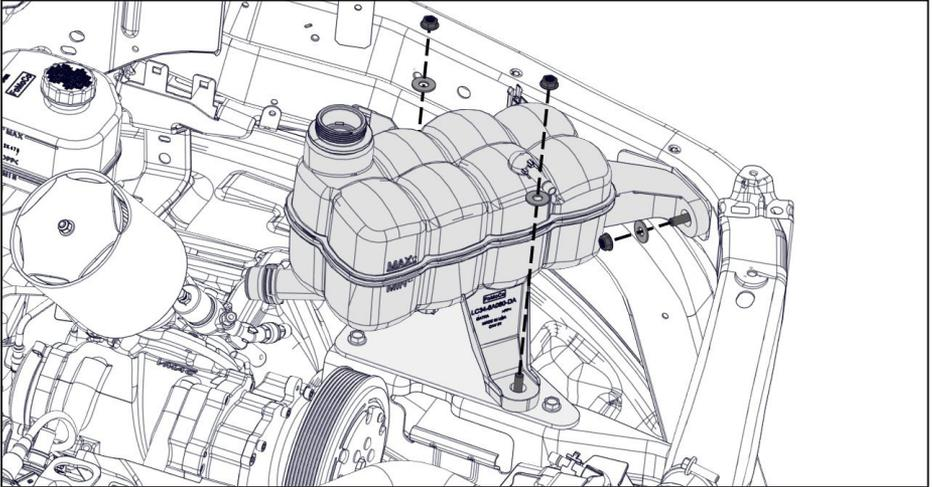

Figure 25 — Install degas bottle brackets
- Using the supplied fasteners, install the degas bottle onto the degas bottle brackets (Figure 25).